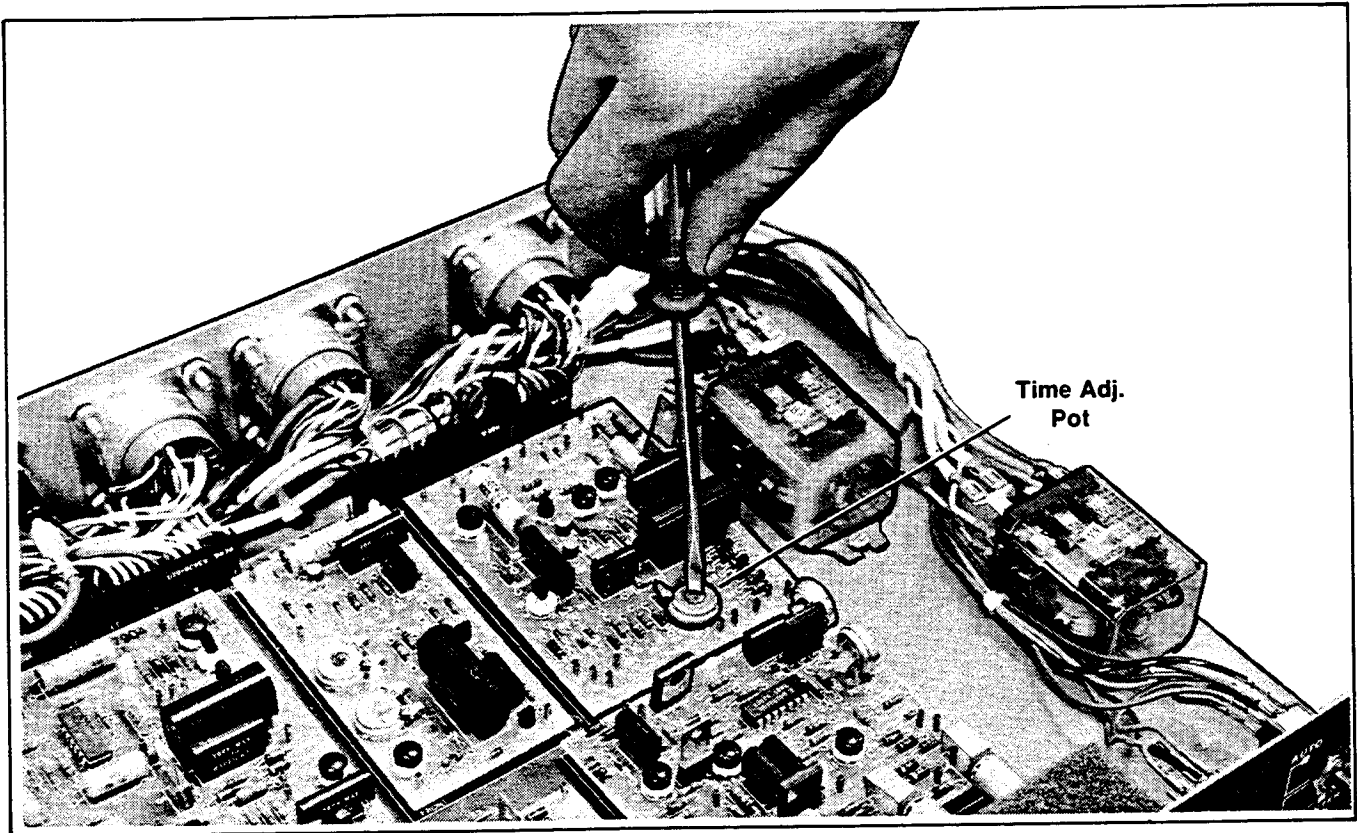

Figure 3-6. Time Adj. Pot Adjustment
- carefully turn TIME ADJ. pot on timer board counterclockwise to adjust delay and retest. See Figure 3-6.